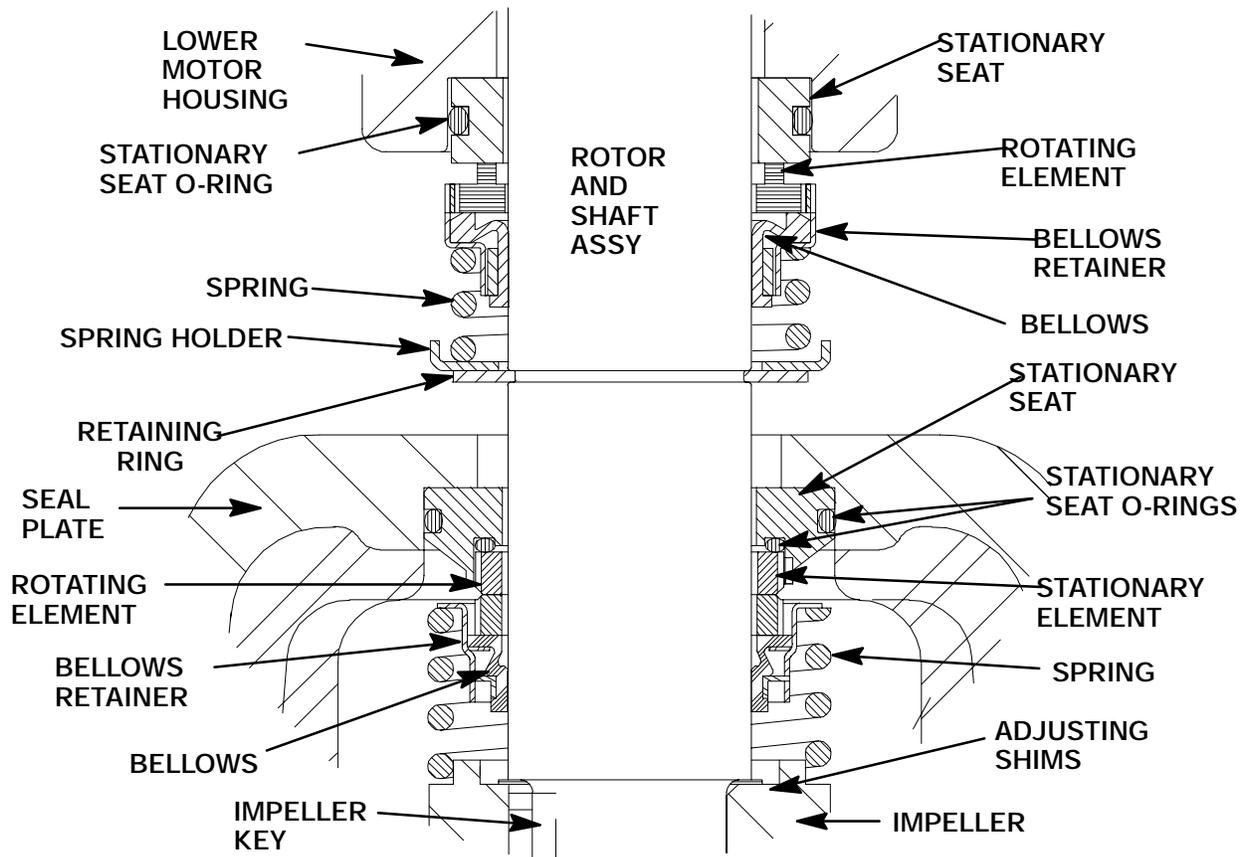

Figure C-3. Upper And Lower Seal Assemblies
Install the shaft seals as illustrated in Figure C-3.
Position the seal spring over the shaft and against the bellows retainer. Install the spring holder (28) and secure the seal with the snap ring (26). See Figure C-3 for proper order of seal assembly.
Position the seal spring over the shaft and against the bellows retainer. See Figure C-3 for proper order of seal assembly.